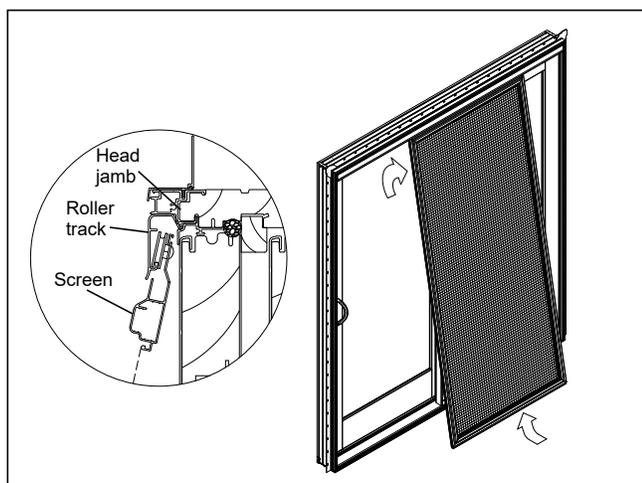

Figure 1
1. From the exterior, hold the screen with the rollers facing you while tilting the bottom of the screen panel away from the door. Lift the rollers into the screen track and pull the panel toward your body to engage the rollers in the track. See figure 1. Make sure the rollers are seated in the screen track by moving the panel back and forth.